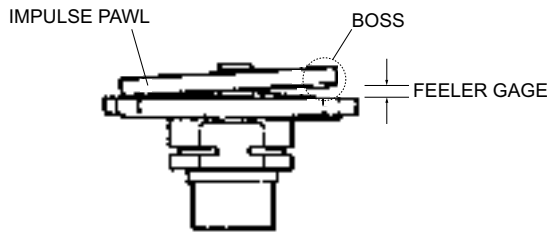

Figure 3.3.4D
12. The maximum clearance for pawls with one boss is 0.150 in. The maximum clearance for pawls with two bosses is 0.150 in. for left-hand rotation couplings and 0.140 in. for right-hand rotation impulse couplings. If the feeler gauge can pass between the full width of the boss and the pawl plate, replace the impulse coupling. (See Figure 3.3.4D). For coupling rotation, see magneto data plate.